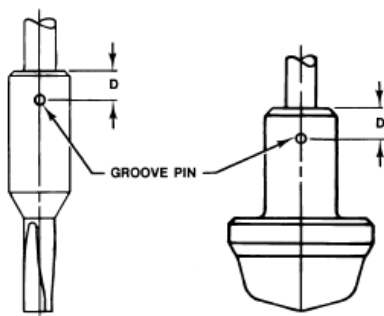

Figure 10. Bolt Torque for Plug/Stem Connection and Plug/Adaptor Connection and Pin Replacement
1. **For valves with metal seats**, screw the valve stem (key 7) into the valve plug (key 2). Tighten to the torque valve given in figure 10. Refer to figure 10 to select the proper drill size. Drill through the stem using the hole in the valve plug as a guide. Remove any chips or burrs and drive in a new pin (key 8) to lock the assembly.
3. **For all valves with composition seats,** screw the valve stem (key 7) into the valve plug guide (key 27, figure 13). Tighten to the torque value given in figure 10. Refer to figure 10 to select the proper drill size. Drill through the stem, using the hole in the valve plug guide as a drilling guide. Remove any chips or burrs and drive in a new pin (key 8) to lock the assembly.
4. Install the seat ring gasket (key 13), and replace the seat ring (key 9). With some valve plug sizes and configurations, the valve plug or tip will slide through the seat ring retainer and bushing assembly (keys 3 and 26), and in other configurations it won't.